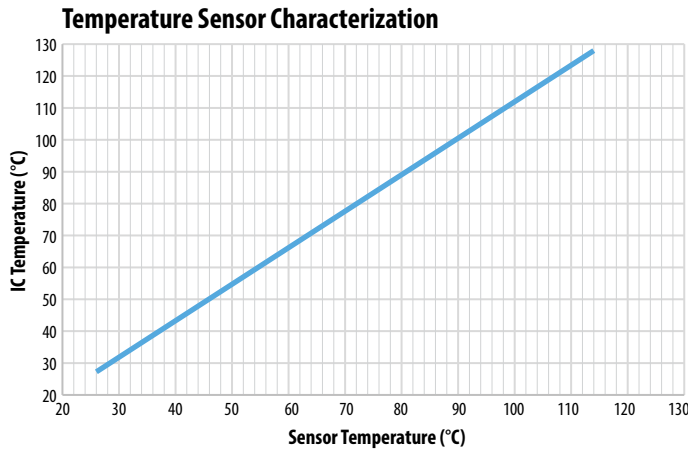
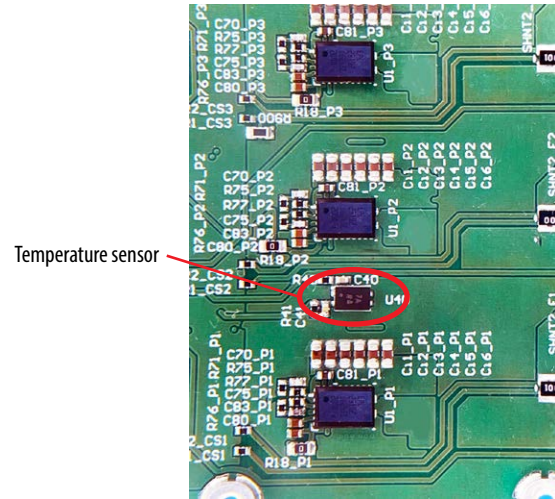

Figure 12: eGaN IC case temperature vs. temperature sensor placed on bottom of the PCB. Operation under natural convection without heatsink.
Figure 13: Temperature sensor location on the top side of the PCB
The graph in Figure 12 shows the correlation between the measured temperature by the on-board temperature sensor on top side of the PCB and the infrared camera die case temperature for same eGaN IC that is measured without a heatsink and with only natural convection cooling. Figure 13 shows the location of the temperature sensor used to measure the top side of the PCB temperature.
* IC temperature was derived from the temperature sensor characterization in figure 12